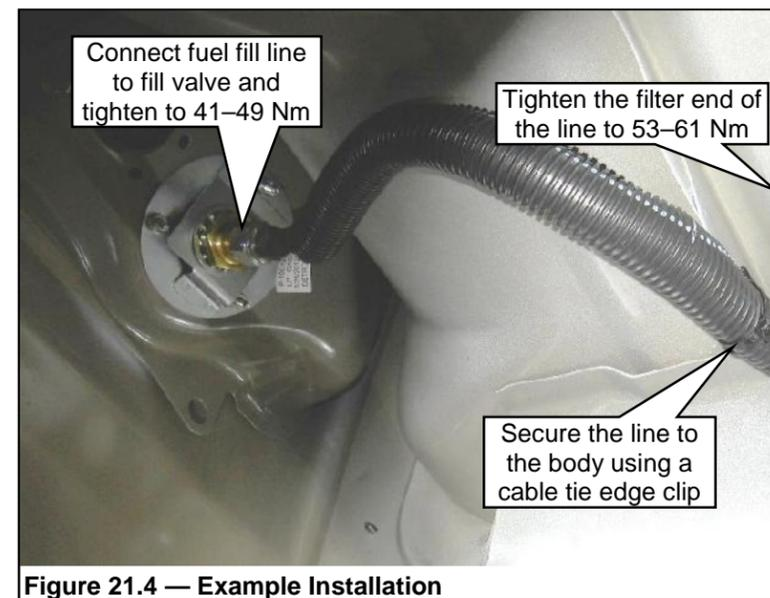

Figure 21.4 — Example Installation
3. If applicable, install the fuel fill line (P-10D121-C-1700) to the fuel fill valve. **Figure 21.4**. Route the line as necessary, secure the line using cable tie edge clips as needed and attach the line to the fuel filter and tighten to 53–61 Nm after the tank is installed. Refer to *Installing the New Fuel Tank (Aft Cab)* for more information.